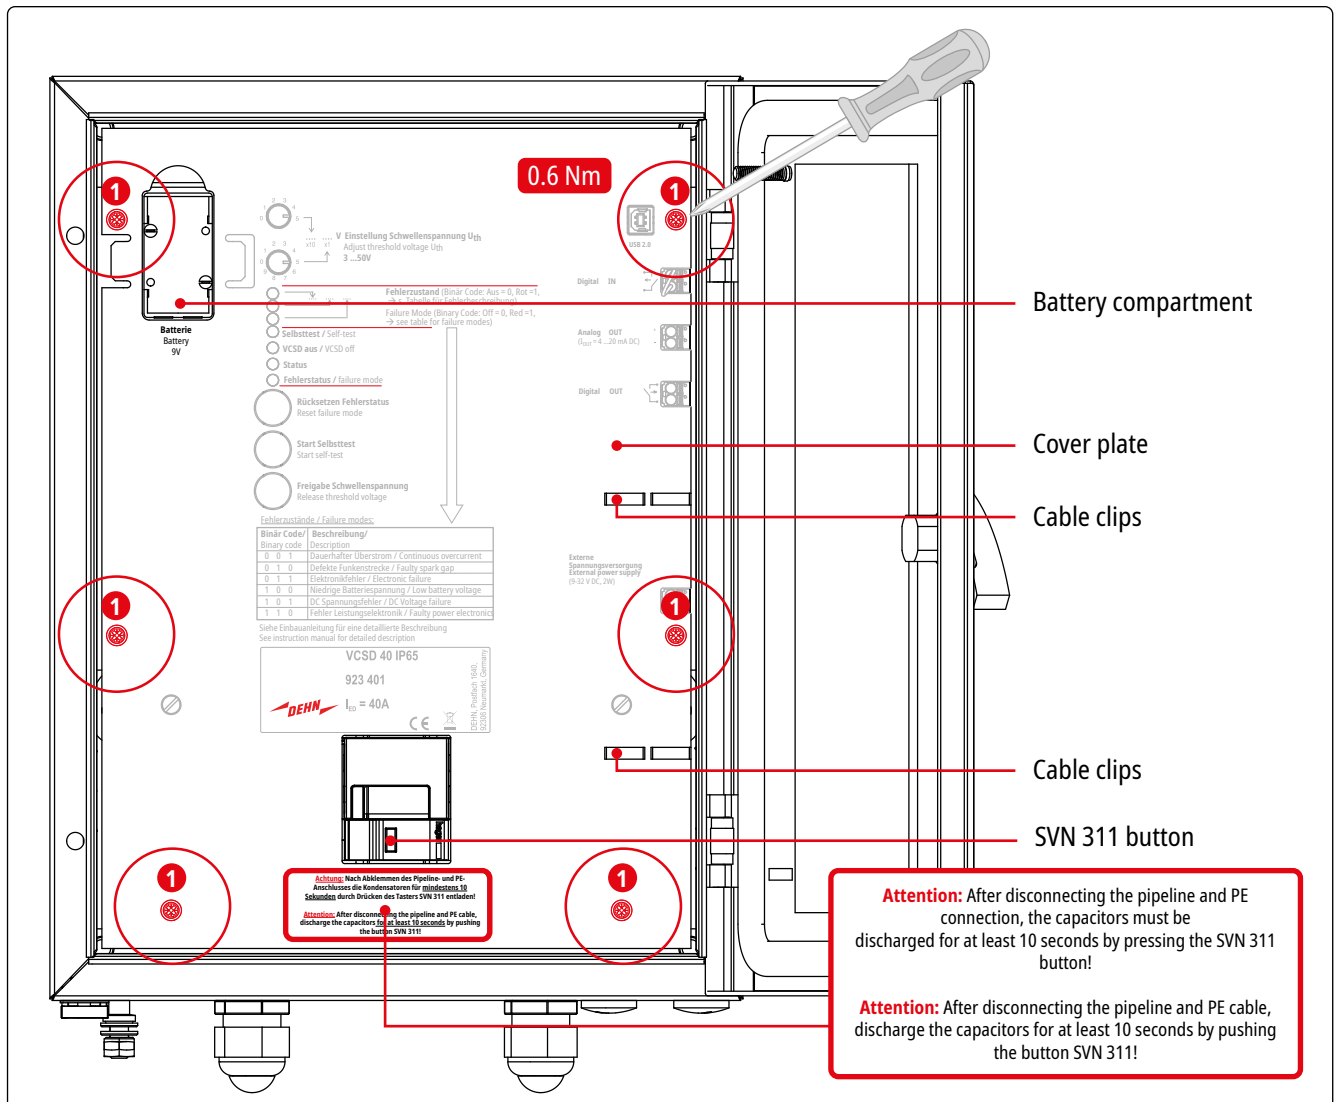

Figure 5 Cover plate
For the remaining installation and connection work, take off the cover plate and remove the battery from the enclosure (see Fig. 5).
To discharge the capacitors, press the SVN 311 button **for at least 10 seconds** (see Fig. 5).
- ➔ Loosen and remove the six fixing screws **1** before removing the battery (see Fig. 5).